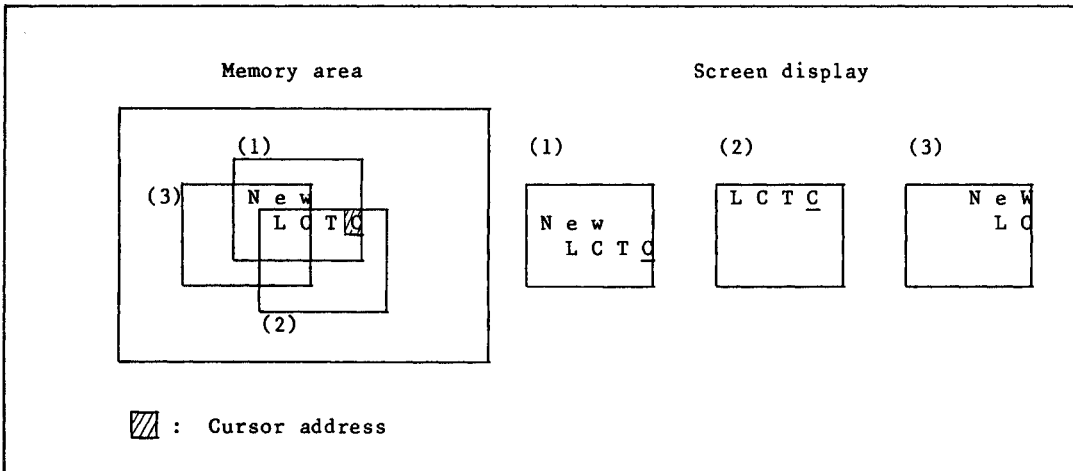

Figure 10-1 Relation between Cursor Address and Screen Display
Figure 10-1 shows the change of screen display when a start address in a memory area is changed. If the shaded part is specified as a cursor address, a cursor is displayed in (1) and (2). But no cursor is displayed in (3). Software control is required to display a cursor constantly on a display.